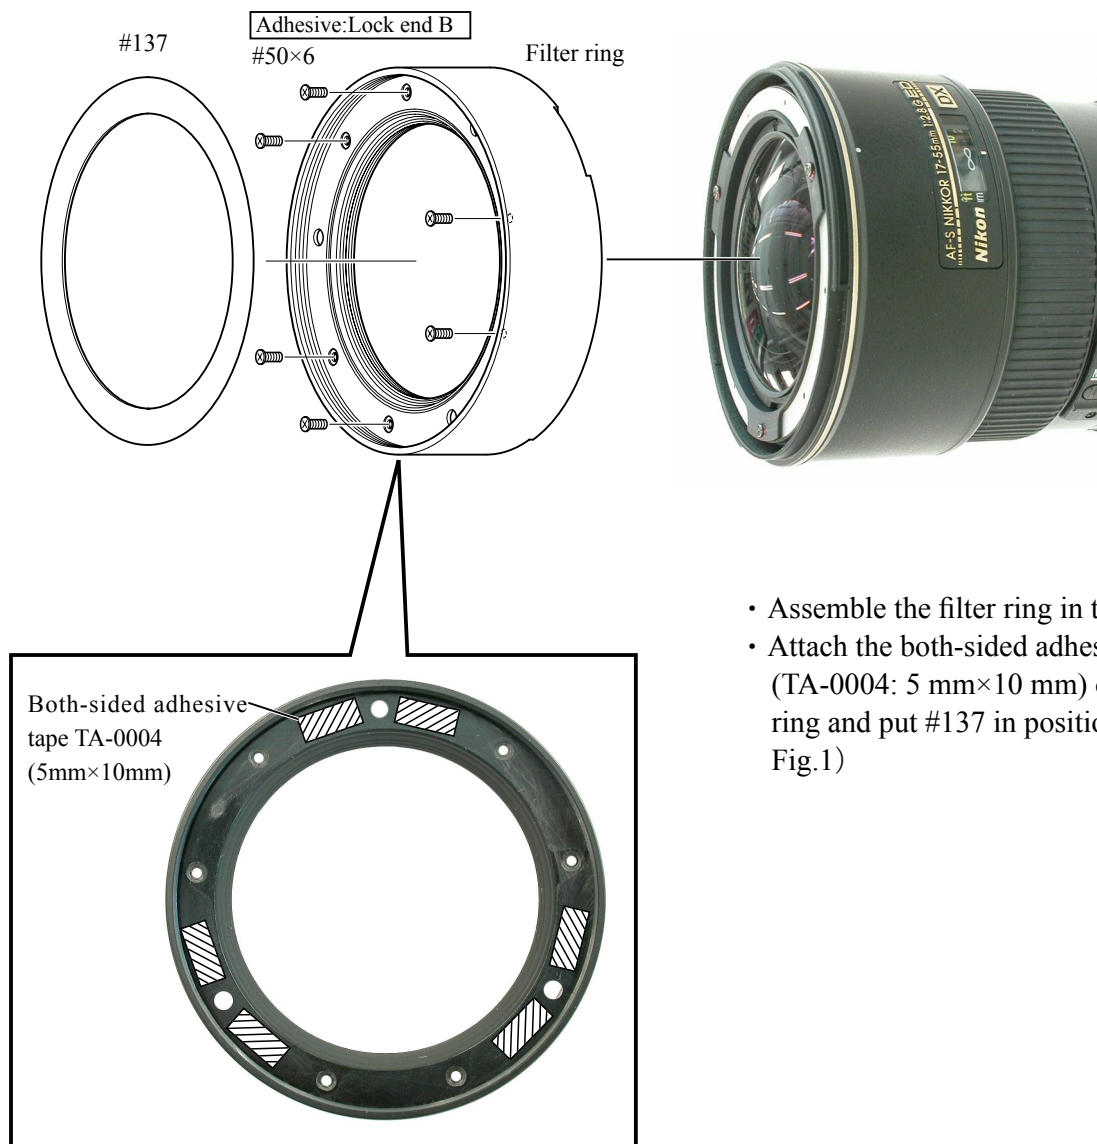

Fig.1
- Attach the both-sided adhesive tape (TA-0004: 5 mm×10 mm) on the filter ring and put #137 in position. (ref. Fig.1)